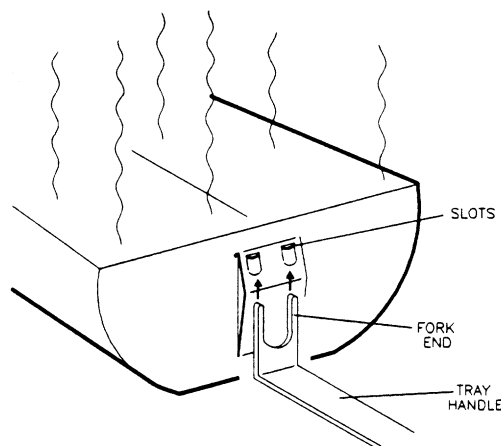

Figure 16: Removing the Tray
- 3. Use the tray handle to remove the tray from the sterilizer (see Figure 16).